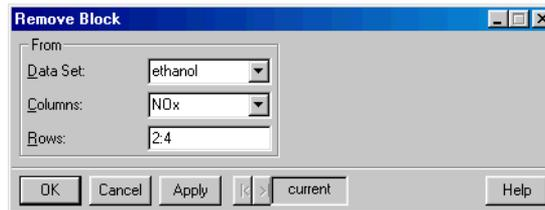

Figure 2.26: *The Remove Block dialog.*
- From the main menu, choose **Data ► Remove ► Block**. The **Remove Block** dialog opens, as shown in Figure 2.26.